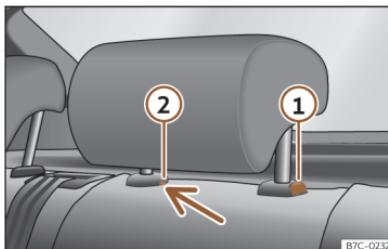

Fig. 99 Rear head restraint: removal.
- Press button >>> **Fig. 99 ①**, while simultaneously pressing on the safety hole ② with a flat screwdriver a maximum of 5 mm wide, and remove the headrest.